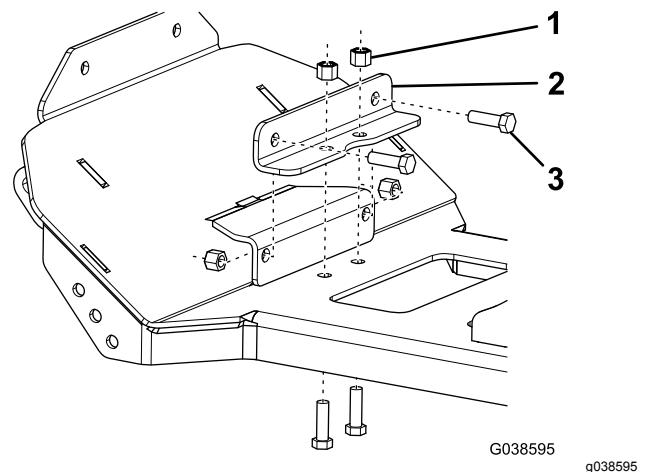

Figure 2
4. Align the cross brace bracket with the vehicle cross brace and secure it to the vehicle and plow skid plate using 4 bolts (3/8 x 1-1/4 inch) and 4 locknuts (3/8 inch) as shown in Figure 2.